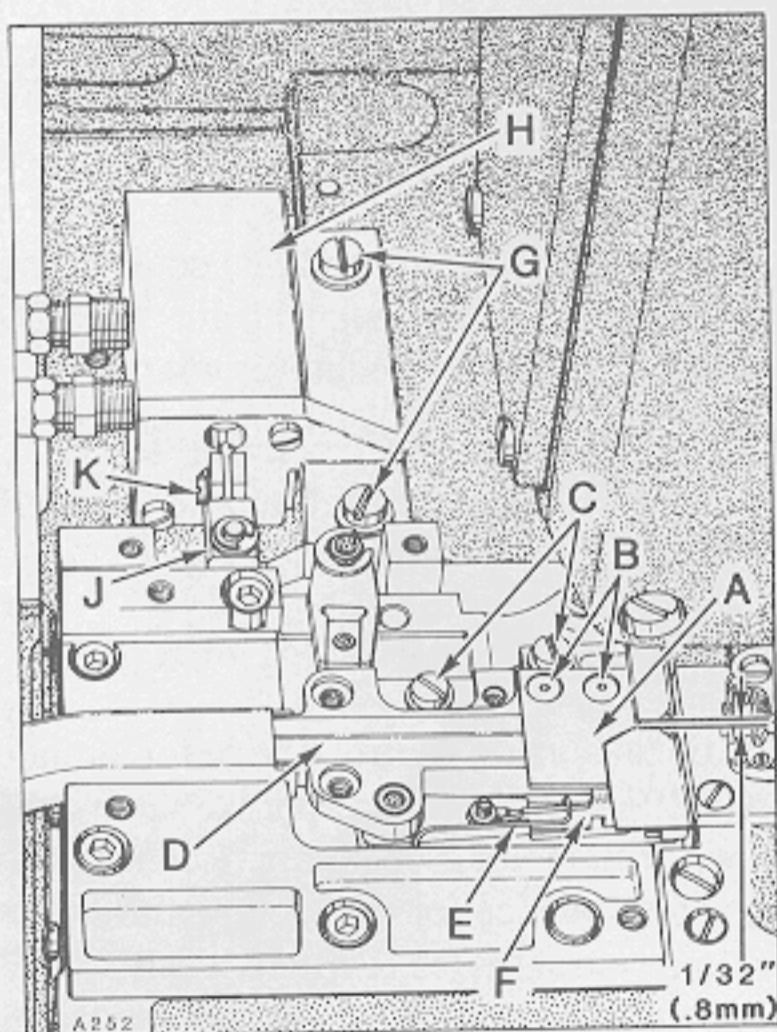
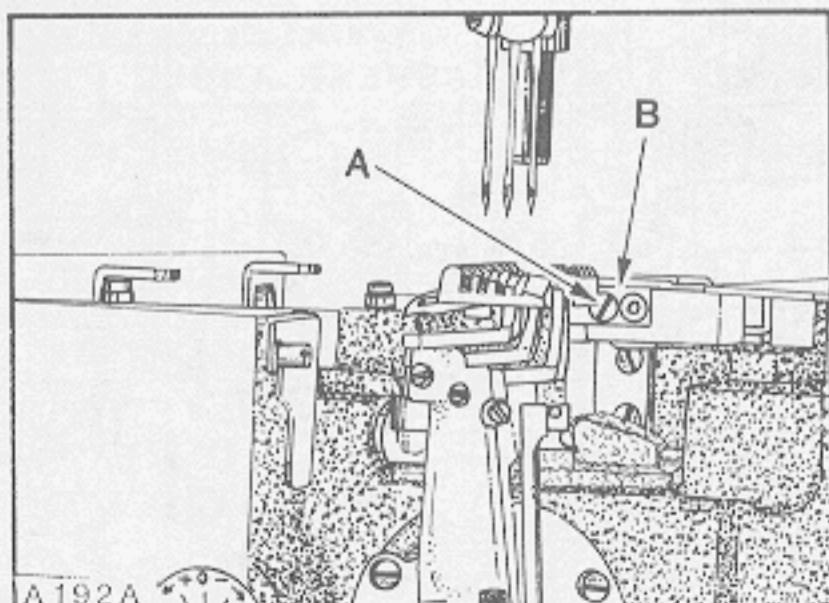

Fig.27
Fig.28
Upper knife (A, Fig. 27) can be replaced by removing two screws (B). To replace lower knife, the upper knife must be removed and rear suction tube cover. Loosen two screws (C) and slide housing (D) towards the rear. Remove throat plate support with throat plate attached. Remove screw (A, Fig. 28) and lift up thread inlet (B). Unhook knife spring (E, Fig. 27) and remove lower knife (F). Reassemble knives in reverse manner. Reassemble thread inlet (B, Fig. 28) and slide housing (D, Fig. 27) forward against rear of throat plate; tighten two screws (C).